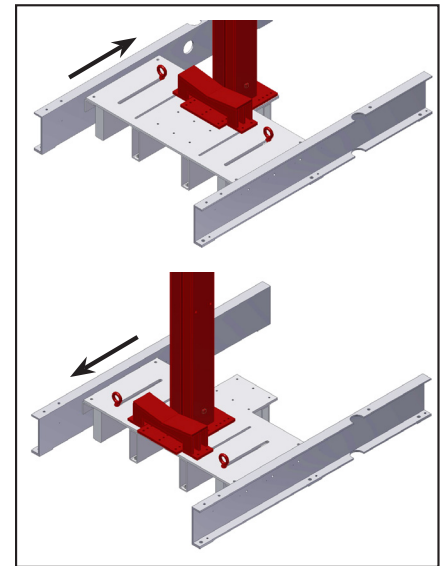

Figure 5
3. Use the “Forklift Attachments” as lift points while placing the beam onto the center of the Tube Sheet Support Table. Align the beam so the Hoist Mount Box is offset to the left. Position the beam at a distance from the blade equal to typical tube sheet cut off distances (Figure 5).